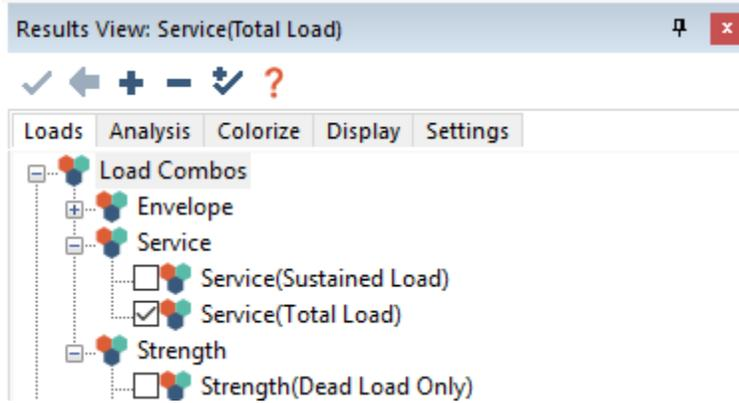

FIGURE 6.8-7 RESULT DISPLAY SETTINGS DIALOGUE BOX
- For serviceability it is important to make a check for deflections in each direction. Select **Service (Total Load)** from the *Loads* tab of the *Results Browser* as shown in **Figure 6.8-7**. Change to the *Display* tab of the *Results Browser*. Set the *Maximum Span/Deflection Ratio. L/* value **240**. Change to the *Analysis* tab of the *Results Browser*. Expand the *Design Sections* → *Deformation* tree and select *Z-Translation*.